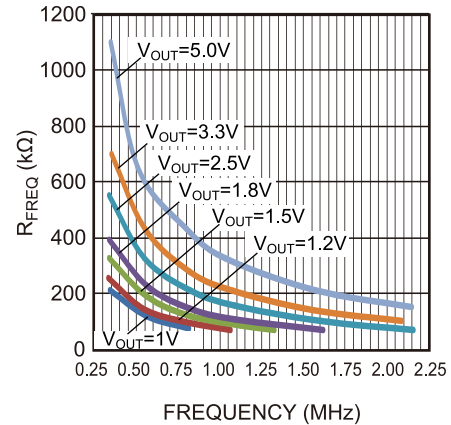

Figure 9: R6 vs. Forced PWM Mode Switching Frequency
Set forced PWM mode switching frequency by connecting a resistor (R6) from VIN to FREQ/MODE and leaving R7 not stuffed (NS) (see Figure 9). Refer to the MODE Selection section on page 12 for more detail.